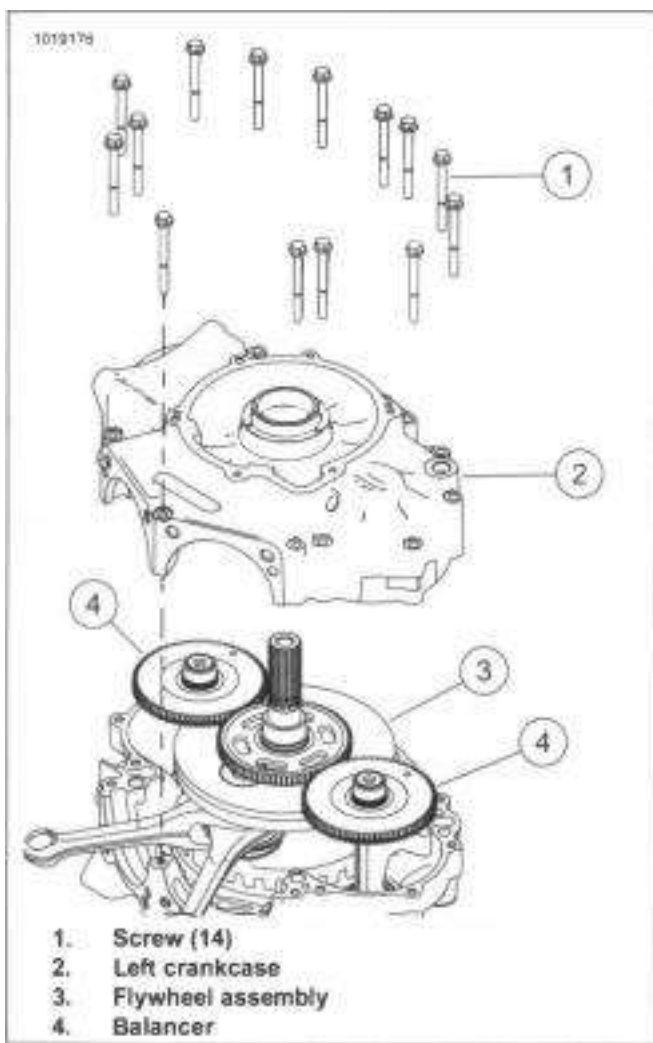

Figure 4-62. Separate Crankcase Halves
- c. See Figure 4-62. Lift left crankcase half (2) off end of crankshaft.